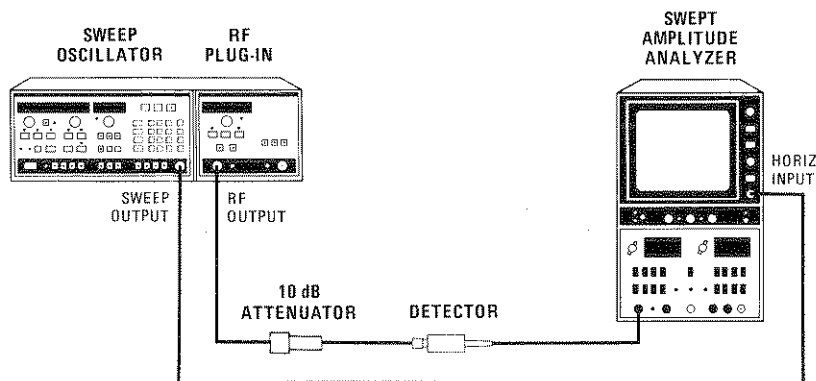

Figure 5-31. Internal Leveling Adjustment Test Setup
1. Connect the equipment as shown in Figure 5-31 with the 8755C Swept Amplitude Analyzer monitoring the RF OUTPUT through the 10 dB Attenuator. On the 8350A, press INSTR PRESET \square MOD . Allow the equipment to warm up for one hour.